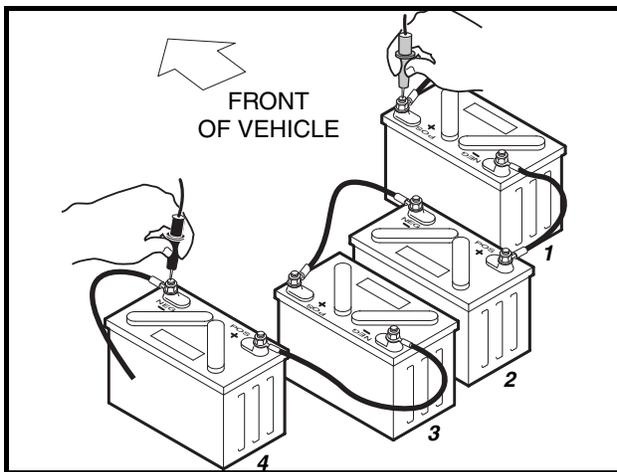

Figure 3-12 DS, DS Villager 4, 800, 810 and 850 Battery Voltage Test
- 4.1. **DS, DS Villager 4, 800, 810 and 850:** With a multimeter set to 200 volts DC, measure the voltage of the battery pack between the positive (+) post of battery no. 1 and the negative (-) post of battery no. 4 (**Figure 3-12, Page 3-17**).